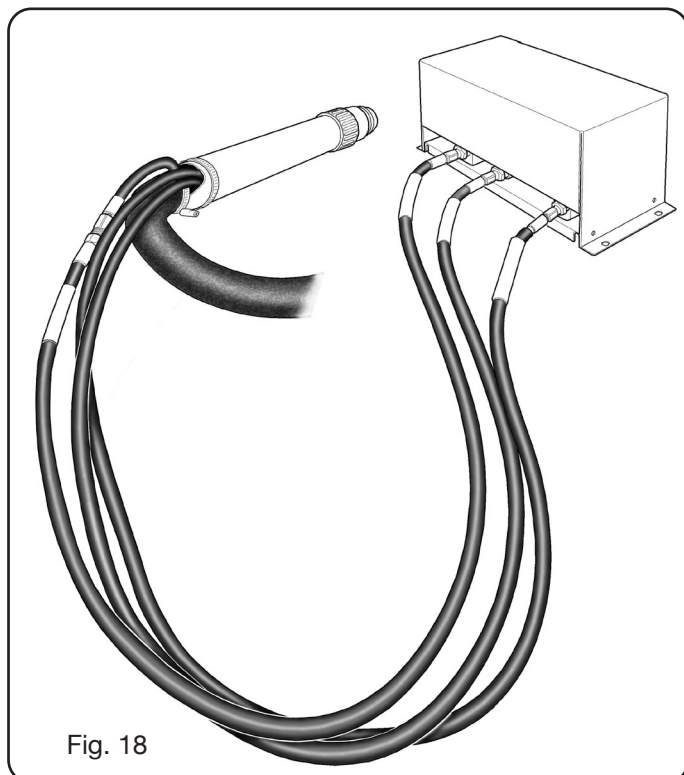

Fig. 18
- Connect the pipe bundle exiting from the torch to the PVC valve console (art.469) tightening these to the respective gas outlets and following the order indicated by their markings (see Fig. 18).